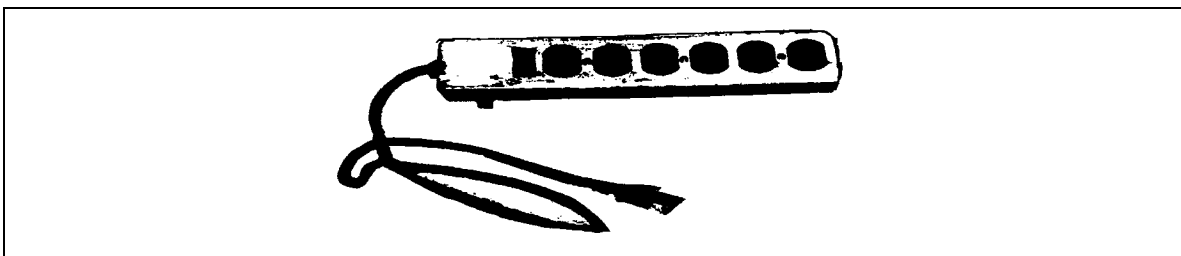

Figure 3-2. Outlet Strip with Surge Suppression.
(1) The UPS protects computer and peripheral devices from power failures, which could result in the loss or corruption of valuable data.
(2) The UPS provides visual and audible indicators, which alert you to utility power failures, utility-wiring errors, over-loads and low battery capacity conditions.
h. An outlet strip with built-in surge suppression such as that illustrated in figure 3-2 is used to connect the various components of the file server or remote workstations.